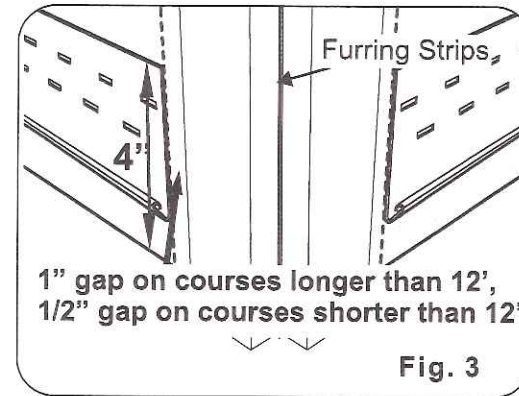

Fig. 3
- Install starter strip aligning the top of the strip with the chalk line and fastening every 8"-12" (Fig. 3).